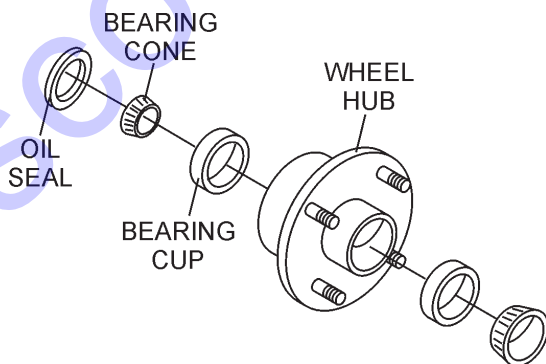

Figure 30. Wheel Hub and Bearings
1. After every 3 months of operation, remove the hub dust cap and inspect the wheel bearings (Figure 30). Once a year, or when required, **disassemble** the wheel hubs remove the old grease and repack the bearings forcing grease between rollers, cone and cage with a good grade of high speed wheel bearing grease (**never** use grease heavier than 265 A.S.T.M. penetration ("No. 2."))
2. Fill the wheel hub (Figure 30) with grease to the inside diameter of the outer races and also fill the hub grease cap. Reassemble the hub and mount the wheel. Then tighten the adjusting nut, at the same time turn the wheel in both directions, until there is a slight bind to be sure all the bearing surfaces are in contact.